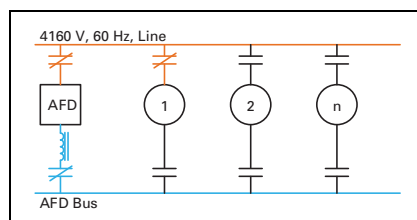

Figure 10.2-6. AFD Transfers Motor #1
- PLC opens motor selector (**Figure 10.2-6**)